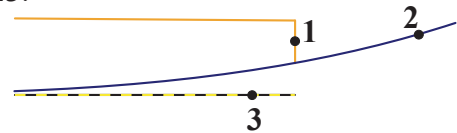

Fig. 23
Trim Line 1 in Side View, **Fig. 23**
Step 3. Delete **Line 3**. Click Line 3 and press **Delete** key, **Fig. 23**.